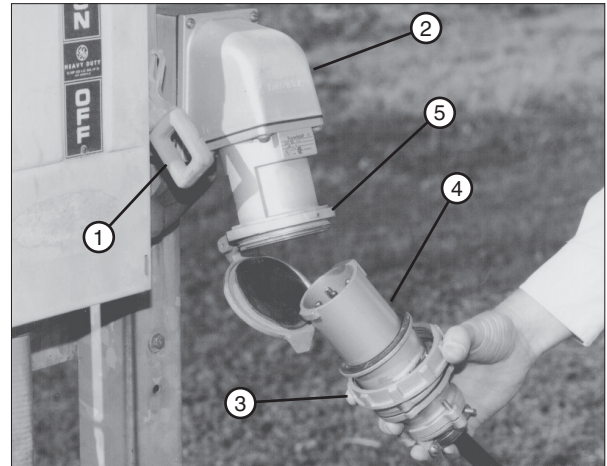

Figure 49-1 1. Disconnect Switch 2. Power Pedestal 3. Plug Cap Collar 4. Plug 5. Receptacle
- Turn the power pedestal disconnect switch to the OFF position. See figure 49-1.
- Remove plug cap from electric cord plug, and insert the electric cord plug into the power pedestal receptacle. See figure 49-1.